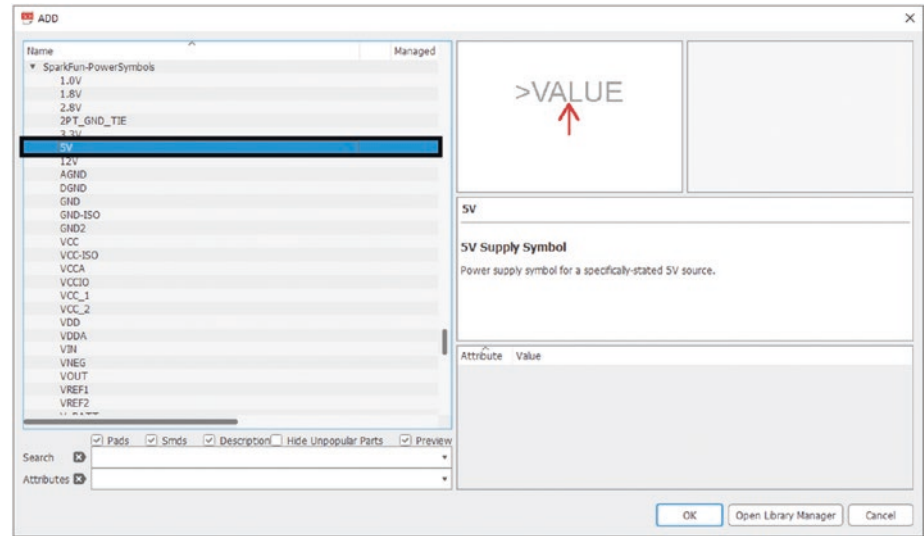

Figure 5-19. Select 5V symbol
6. Scroll down to the SparkFun-PowerSymbols selection. Then double-click the “5V” text. See Figure 5-19.